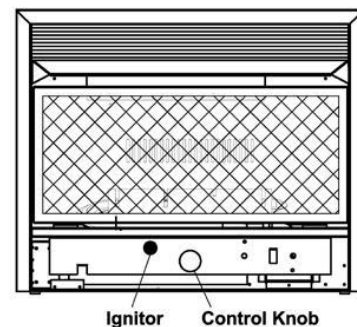

Figure 26
4. Turn control knob clockwise to the OFF position, see Figure 26.
5. Wait five (5) minutes to clear out any gas. Then smell for gas around heater and near floor. If you smell gas, **STOP!** Follow "B" in the safety information on Warnings plate. If you don't smell gas, go to the next step.
6. Turn control knob counterclockwise to the PILOT position. Keep control knob pressed in for five (5) seconds. **Note:** You may be running this heater for the first time after hooking up to gas supply. If so, the control knob may need to be pressed in for 30 seconds. This will allow air to bleed from the gas system. If control knob does not pop up when released, contact a qualified service person or gas supplier for repairs.
8. Keep control knob pressed in for 30 seconds after lighting pilot. After 30 seconds, release control knob. **Note:** If pilot goes out, repeat steps 3 through 7. This heater has a safety interlock system. Wait one (1) minute before lighting pilot again.